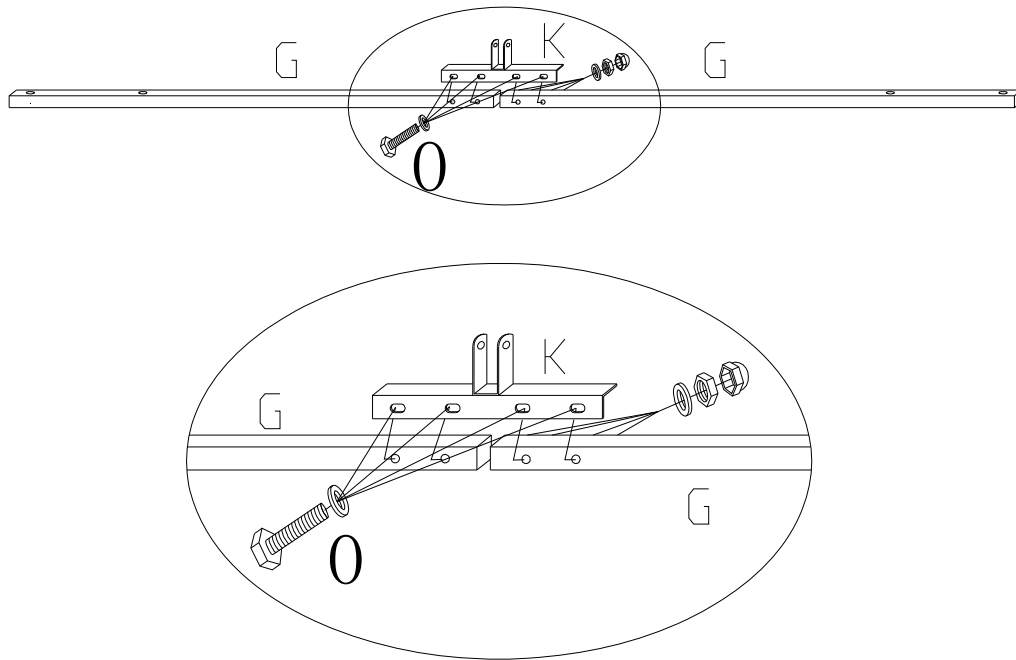

Fig.2
Attach two Cross Beams(G) to Cross Beam Connector(K) using Hardware(O) with Wrenches(S). (See Fig.2)